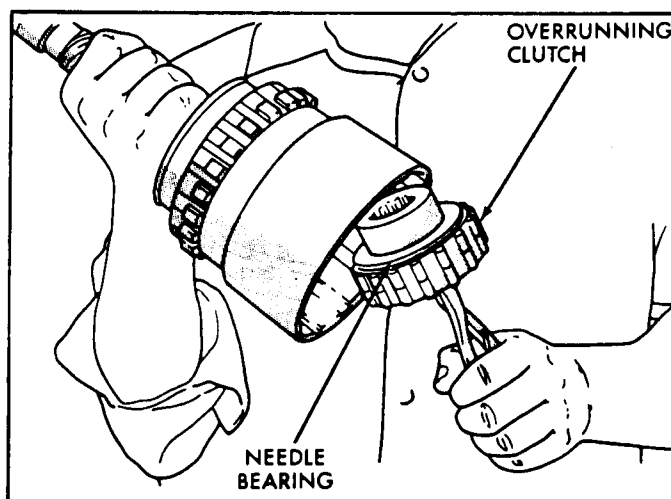

Figure 17
24. Remove the overrunning clutch assembly with snap ring pliers, as shown Figure 17. Remove clutch with counterclockwise twisting motion (See Figure 17).